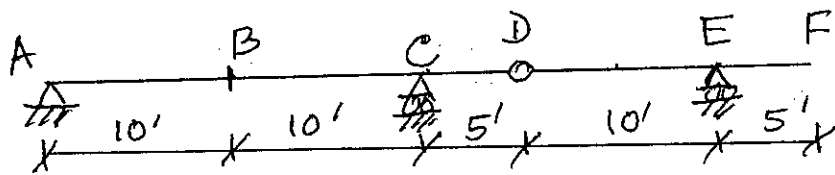

Fig. 1
1. For the beam shown in Fig. 1, develop influence line diagram for (i) Reaction at C (ii) Moment at B (iii) Shear just right of C (iv) Shear just left of E. (28)
1. (a) Explain the differences between USD and WSD methods of design with particular emphasis on how safety is ensured in both the design methods. (7)
- (b) Discuss the behavior of RC rectangular beam in flexure under increasing load by drawing neat sketches for strain and stress distribution of uncracked, cracked and ultimate conditions. (8)
- (i) Determine the cracking moment M_{cr} . (10)
- (ii) Find the maximum service load moment that can be resisted without stressing the concrete above $0.45 f'_c$ or the steel above $0.4f_y$. (10)
2. (a) What are the sources of uncertainties in analysis, design and construction of RC structure? (5)
- (b) Derive equation for finding ρ_{max} and discuss how a minimum tensile strain ($\epsilon_f = 0.004$) at failure is ensured by not exceeding maximum reinforcement ratio. Also discuss the variation of ϕ with ϵ_t as given in ACI/BNBC code. (10)
- (c) A beam section is limited to width $b = 14$ in. and total depth $h = 28$ in. Calculate the required reinforcement if the beam has to resist a factored moment $M_u = 725$ kip-ft. Assume two layer tensile reinforcement with $d = 24$ in. and $d_t = 25.5$ in. Also, assume $d' = 2.5$ in. if compression steel is required. (20)
3. (a) A floor system consists of a 6 in. slab supported by continuous T-beams with 30 ft span and centre to centre spacing of 12 ft. 6 in. as shown in Fig. 1. Web dimensions as determined by negative moment requirements at support are $b_w = 12$, And $d = 21$ in. What tensile reinforcement is required at midspan to resist a factored moment $M_u = 600$ kip-ft? Also, check minimum reinforcement and ϵ_t . (15)